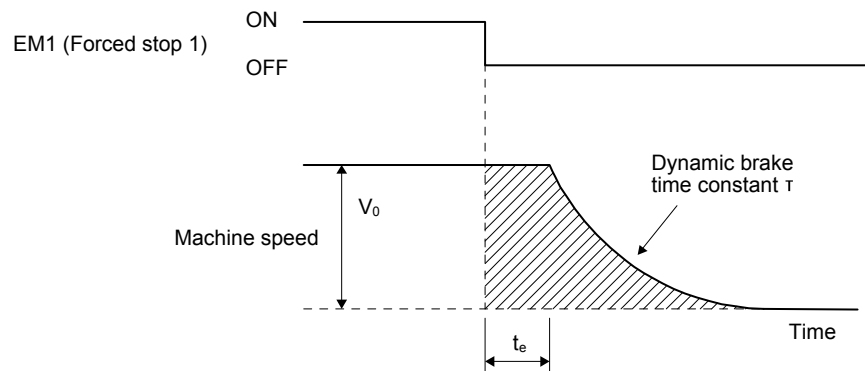

Fig. 10.3 Dynamic brake operation diagram
(1) Calculation of coasting distance
Fig. 10.3 shows the pattern in which the servo motor comes to a stop when the dynamic brake is operated. Use equation 10.2 to calculate an approximate coasting distance to a stop. The dynamic brake time constant τ varies with the servo motor and machine operation speeds. (Refer to (2) (a), (b) of this section.)